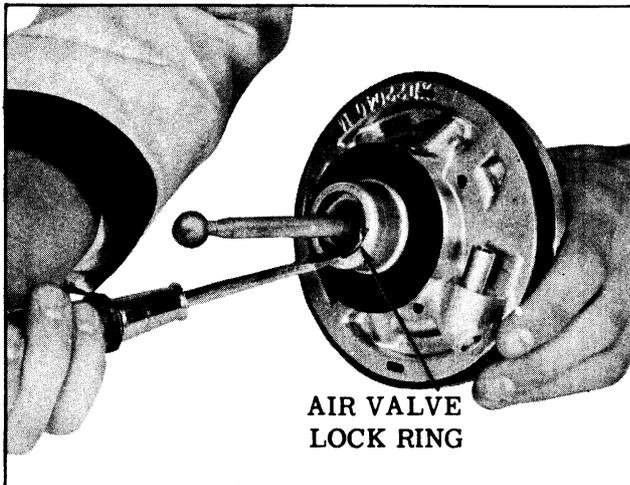

Fig. 7-16 Removing Air Valve Lock Ring
2. Remove lock ring as shown in Fig. 7-16 and remove push rod and air valve assembly. Remove the stop plate washer.